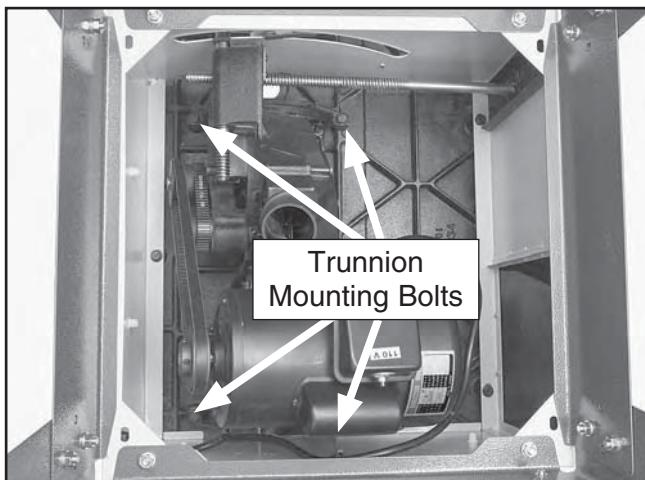

Figure 114. Trunnion mounting bolts.
- To adjust the table, slightly loosen the hex bolts in the trunnion mounting locations (see **Figure 114**) and slightly tap the trunnions in the needed direction. Repeat **Steps 2–5** until the blade and miter slot are parallel.